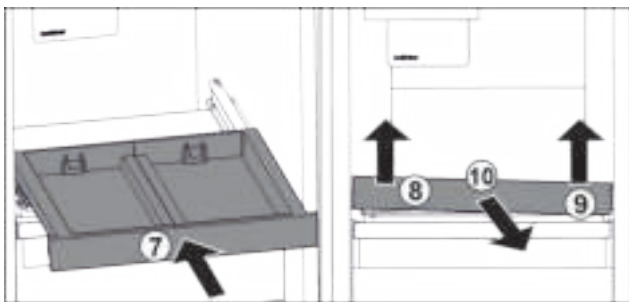

Fig. 20
- ▶ Slide in the pull-out board. Fig. 20 (7)
- ▶ Lift the pull-out board at the front left. Fig. 20 (8)
- ▶ Lift the pull-out board at the front right. Fig. 20 (9)
- ▶ Take out the pull-out board to the front. Fig. 20 (10)